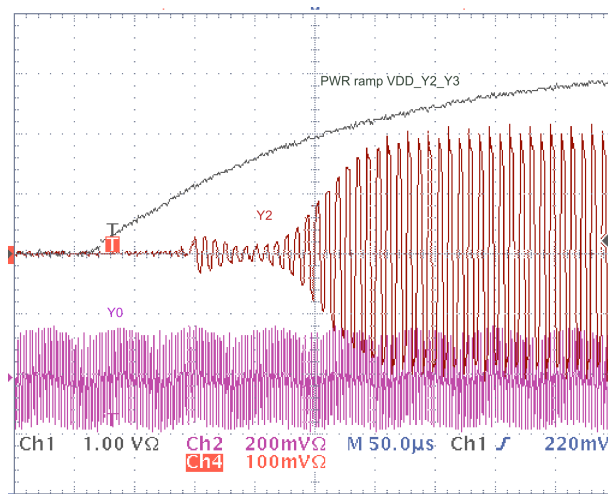

Figure 58. Sequencing the Output Turn-on Through Sequencing the Output Supplies Output Y2 Powers Up While Output Y0 is Already Running
2. **Output Power supply domain control:** An even easier scheme might be to connect the clock output power supply VDD\_Yx to the corresponding DSP input clock supply domain. In this case, the CDCM6208 output will remain disabled until the DSP rails ramps up as well. Figure 58 shows the turn-on behavior.